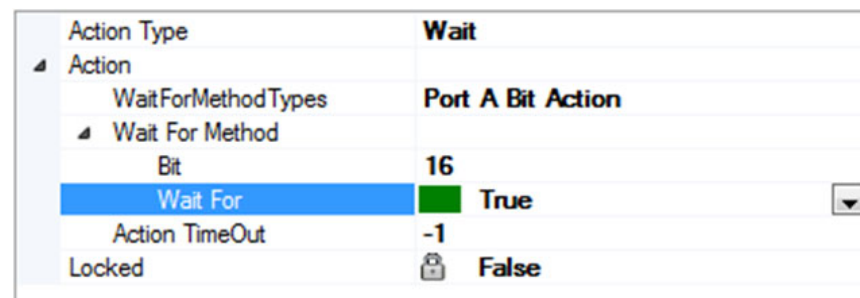

Figure 170: Port A Bit Action
1. Wait for a specific level of a bit on Port A. Port A corresponds to input signals with the scan controller. Figure 170 (below) shows a configuration which will block execution in IPGScan until bit 16 on Port A is active.